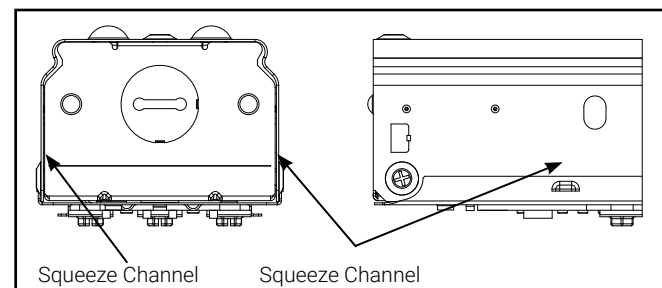

Figure 2.
1. Remove cover from channel by squeezing inward below each tab (Figure 2). Gradually lift up cover as you continue to squeeze channel at each tab location.